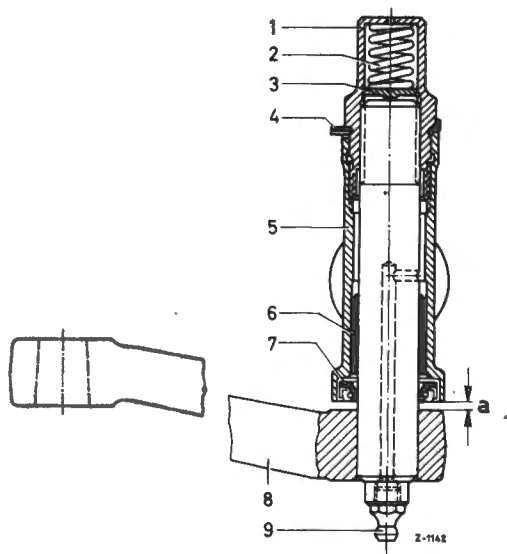

Fig. 46-11/2
4. Check the pin of the steering relay arm (8) and the bushing (6) in the trunnion bearing (5) for wear (for dimensions see Job No. 46-0). If the pin is worn, replace the arm. If necessary, tap out the bushing including the grease seal (7) from the trunnion bearing (Fig. 46-11/2).